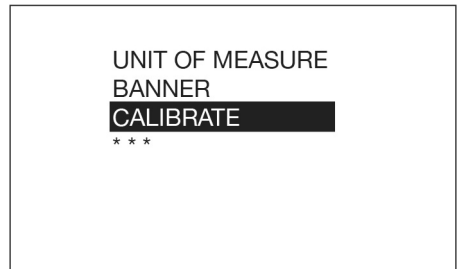

FIG. 13
4. Select the CALIBRATE option (Fig. 13) to display the calibration K-Factor screen shown in Fig. 14.